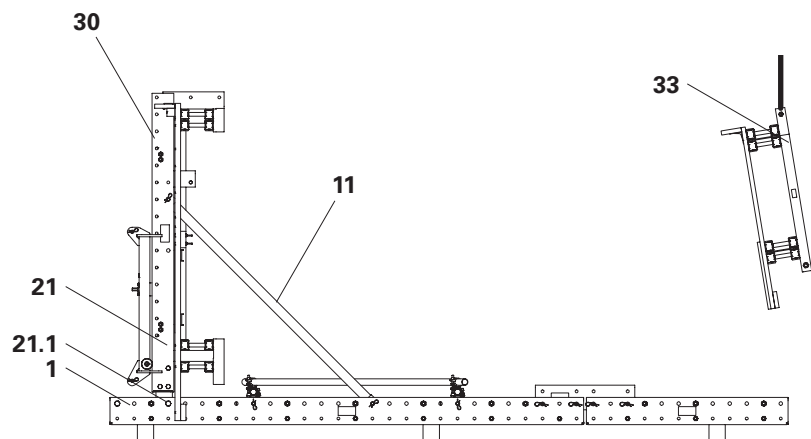

Fig. E2.03
4. Release the screw connection between the finishing platform beam and the climbing rail and lift the finishing platform to one side with a crane for dismantling. (Fig. E2.03)